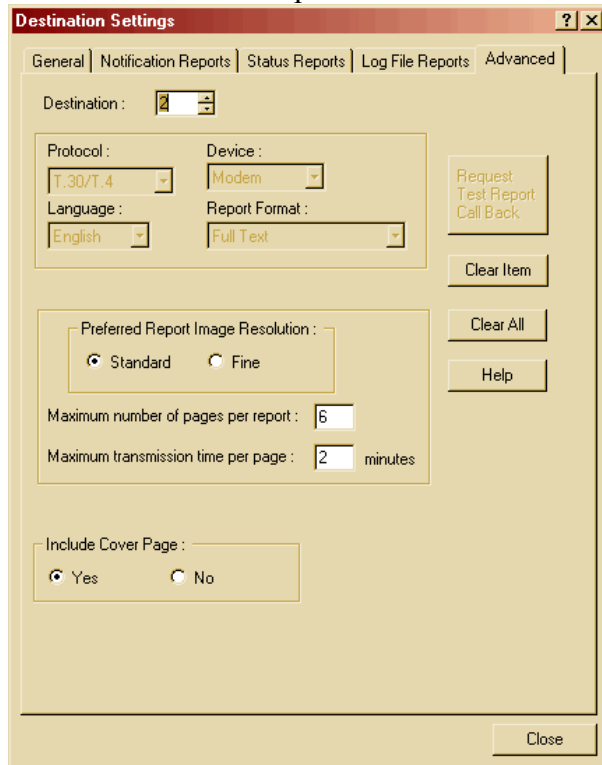

Figure 26: Destination Settings, Advance
24. Select the **Advance** tab for Destination #2 and configure it as shown in Figure 26.